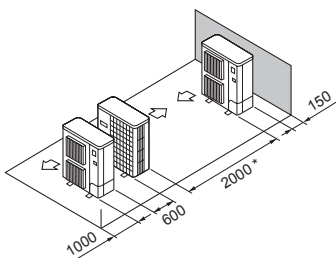

Fig. 2-17
- ⑤ Enkelt parallel enhed arrangement (Fig. 2-17)